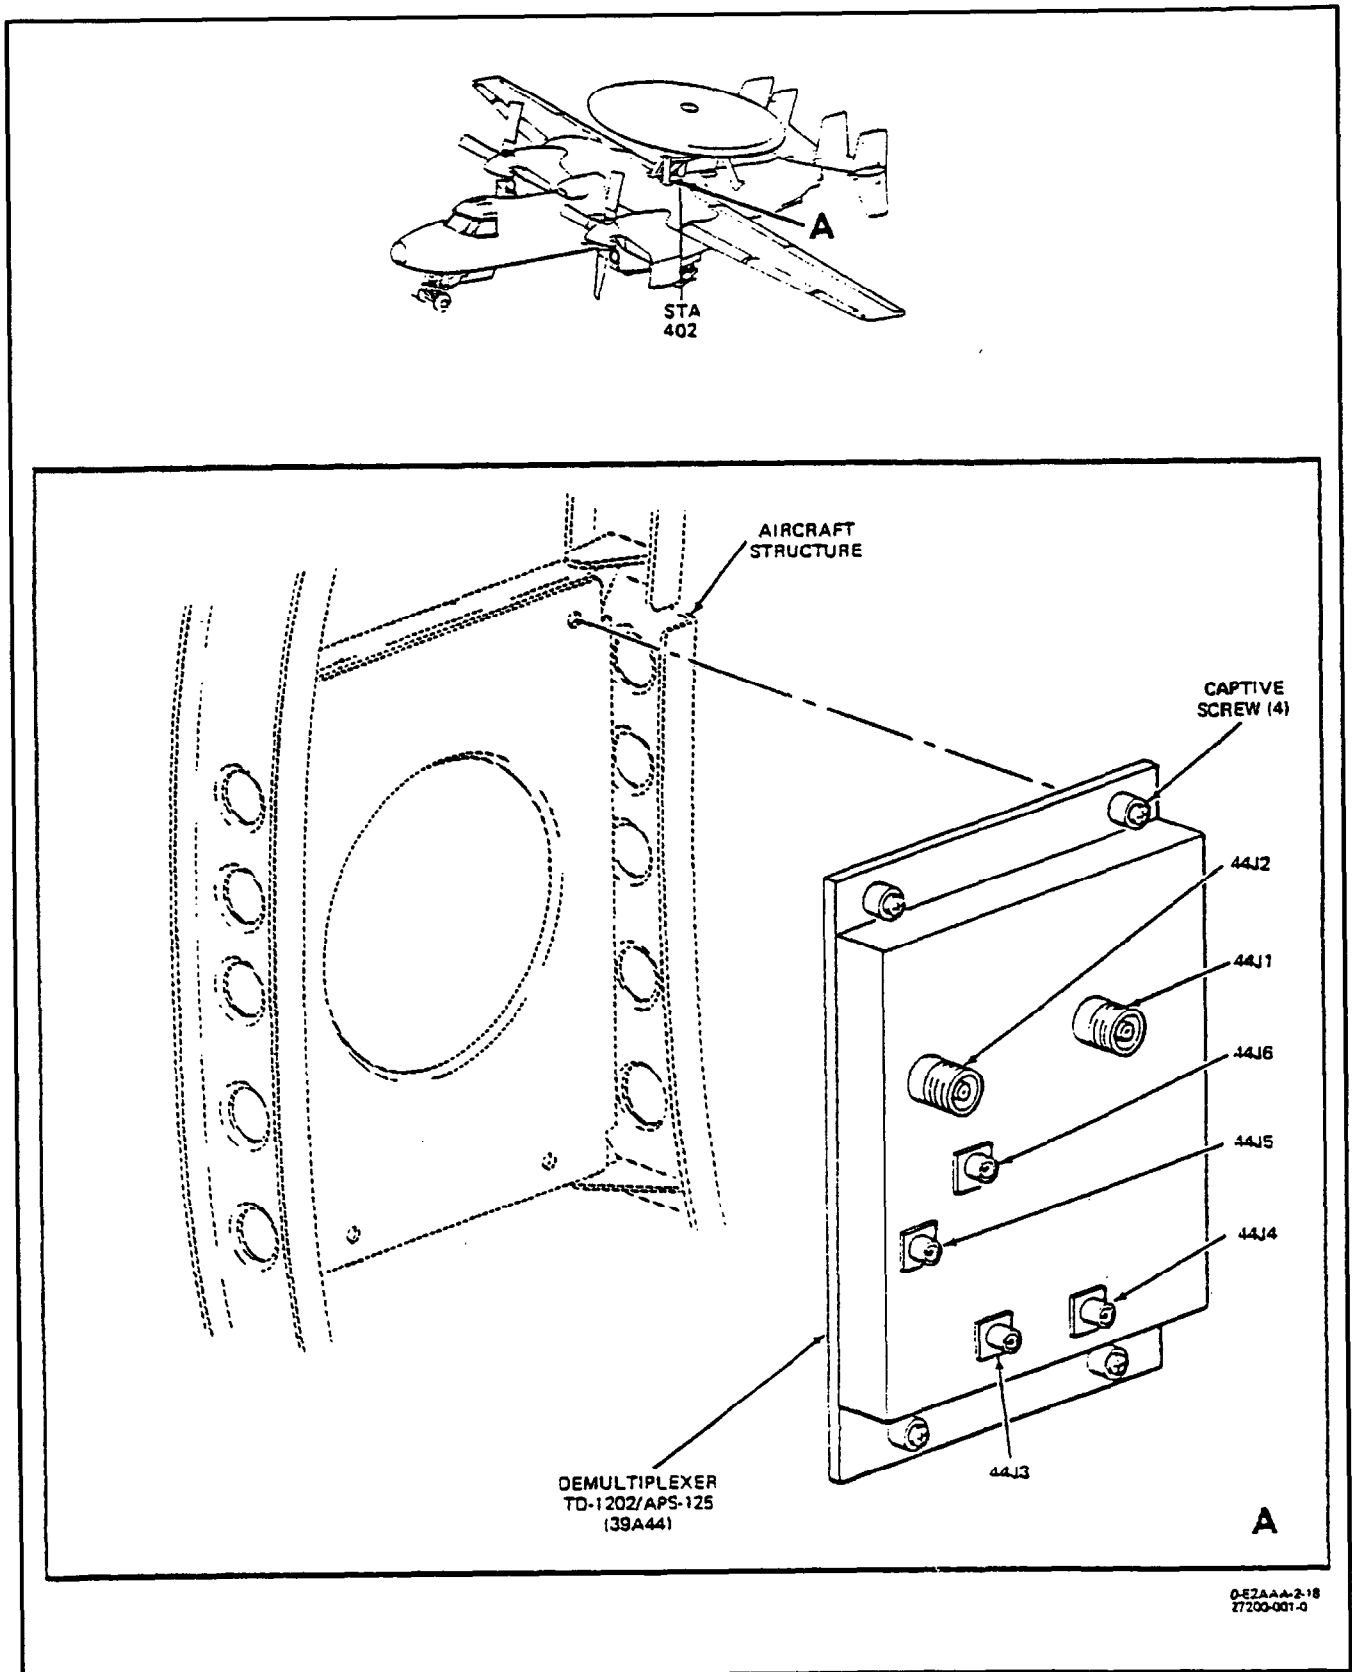

Figure 1. Removal and Installation of Demultiplexer TD-1202/APS-125
4. **INSTALLATION.** (See figure 1.)